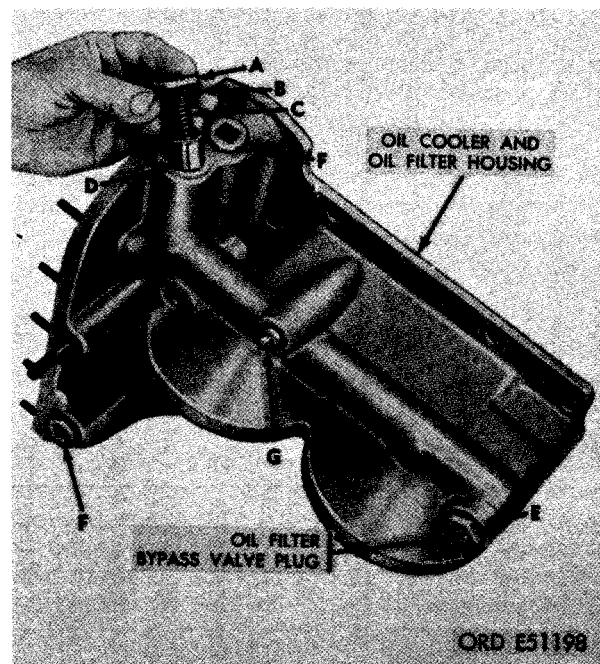

FIGURE 403. REMOVING OR INSTALLING BYPASS VALVE PLUNGERS AND PIPE PLUGS.
a. Disassembly. Figure 403. (A) Remove oil cooler bypass valve plug from oil cooler and oil filter housing. (B) Remove and discard oil cooler bypass valve plain washer (gasket). (C) Remove oil cooler bypass valve plunger spring. (D) Remove oil cooler bypass valve plunger. (E) Remove the oil filter bypass valve plug and
d. Assembly. Refer to figure 403 and reverse the sequence of instructions to assemble the oil cooler and oil filter housing and related parts.